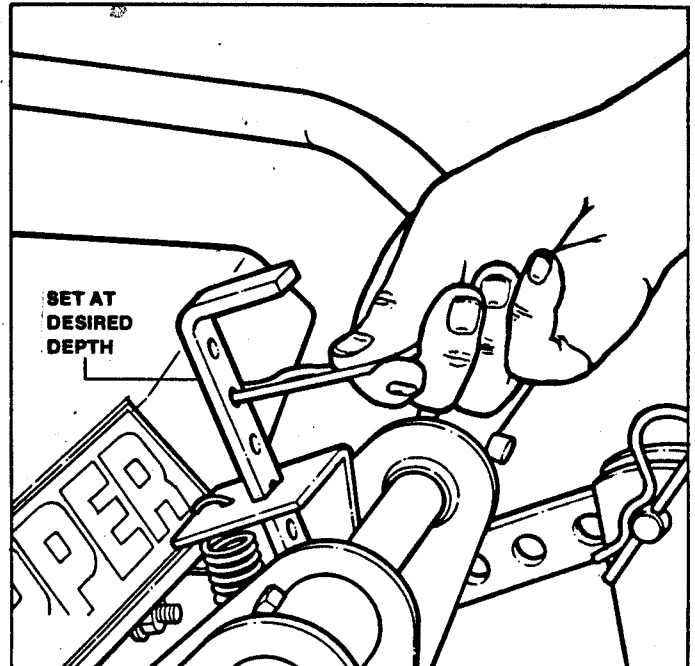

FIGURE 12
3. To set desired tilling depth, remove the hair pin from the draft control and raise the hair pin for more depth. See Figure 12. After soil is pulverized, use more tension, (lower hair pin in control linkage) to prevent tractor from stalling.